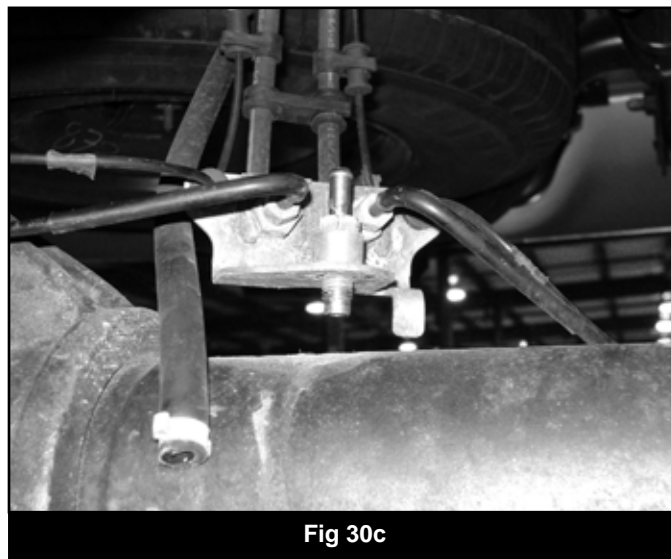

Fig 30c
4. 2012 Models: Disconnect the rear brake line bracket from the axle by removing the vent line. (Fig 30c)